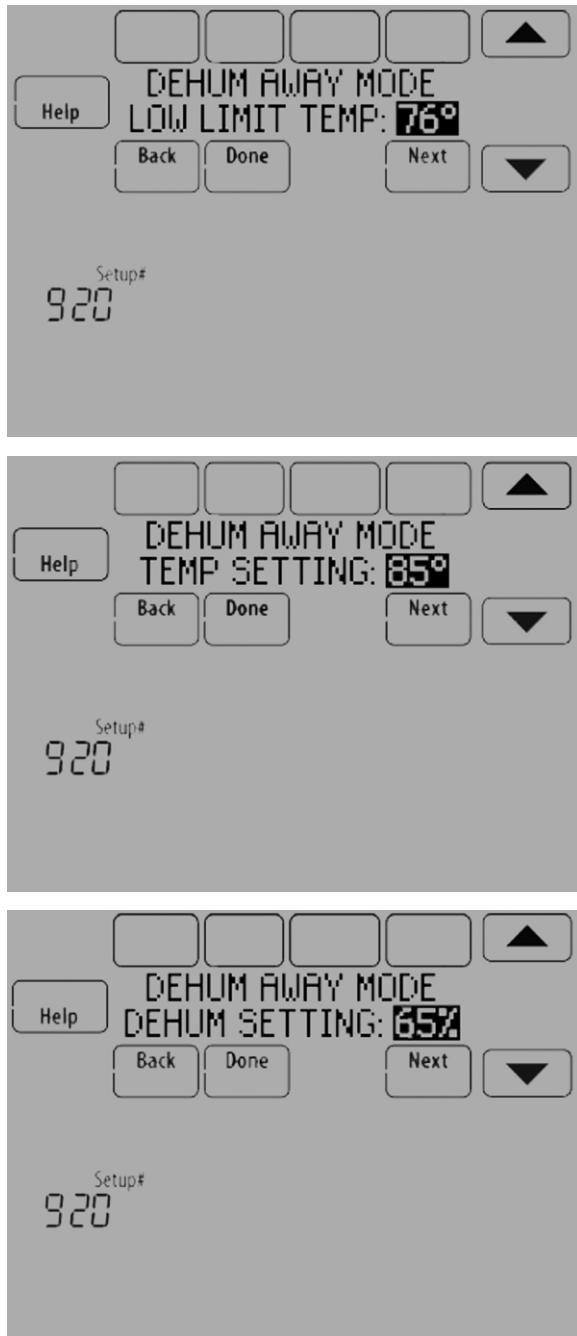

Fig. 140.
3. Set temperature and dehumidification settings. See Fig. 140.